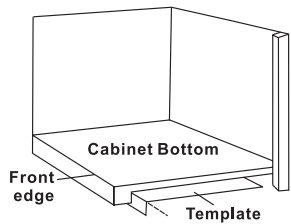

Figure 2
c) Tape Mounting Template to the underside of the cabinet with the folded portion of the Mounting Template flush up against the cabinet overhang (see Figure 2). Go to STEP 2.